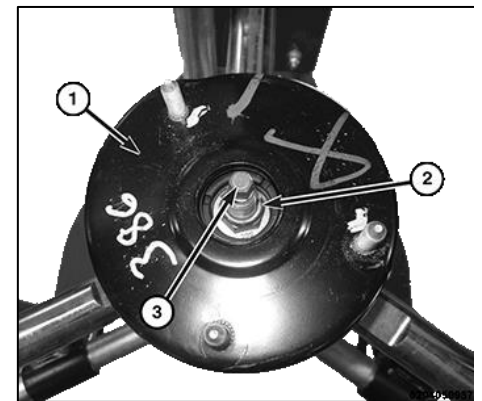

Figure 5
10. Using the appropriate tool, remove the shock absorber shaft nut (3). <Figure 5>